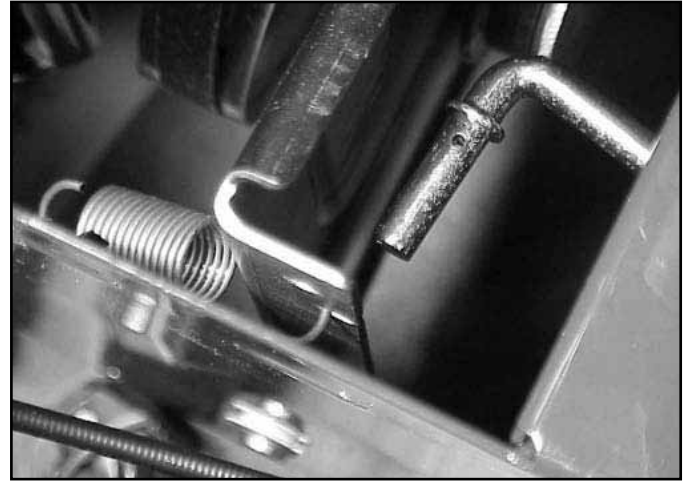

Fig 140
23. Slide speed control linkage from pivot pulley plate assembly (Fig. 140).